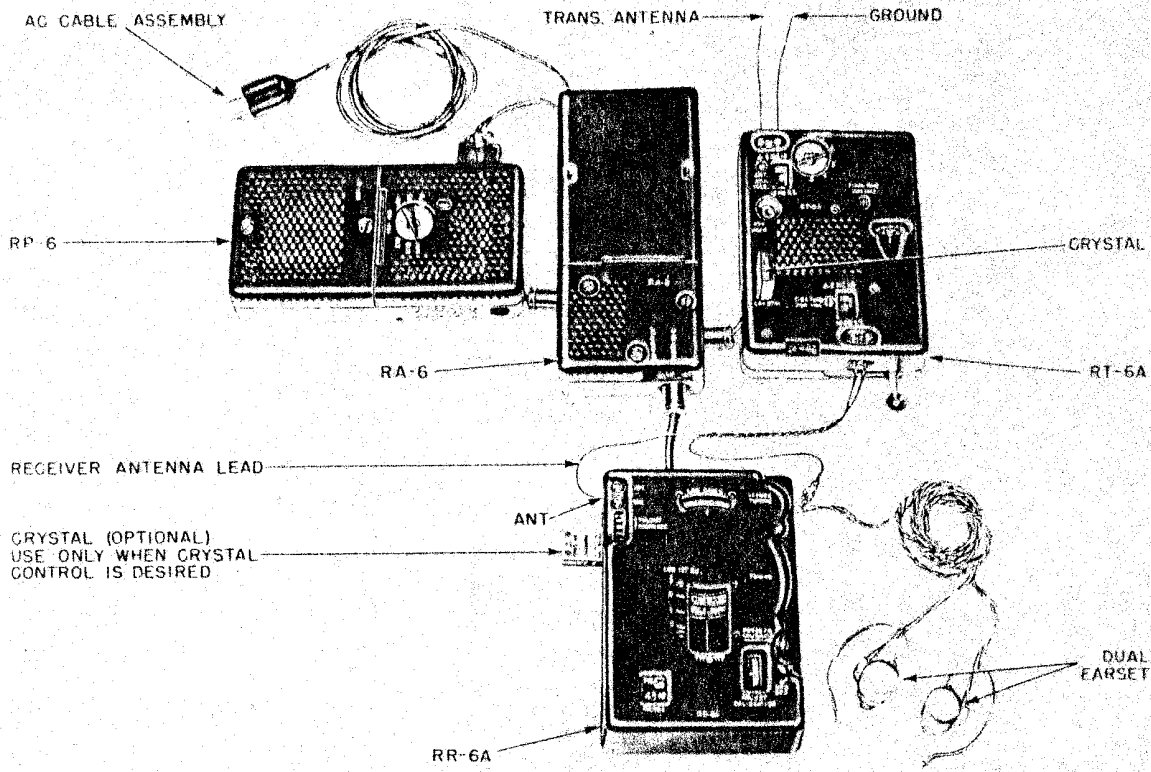

Figure 5. Radio Station RS 6A, a-c operation hook up.
c. Connect the equipment as shown in Figure 5: (Receiver crystal shown is optional.)
(1) The Jones plug marked AC must be inserted in the OPERATE receptacle on Power Supply RP-6 before the power plug is connected to an a-c power source, otherwise "hot" terminals will be exposed and a power line fuse may be blown.
(2) Connect the two-prong plug of the a-c cable assembly to any a-c power source whose voltage is between 70 and 270 volts, and frequency between 42 and 400 cycles per second. The two prong a-c power plug can be adapted to various receptacles in the following ways: